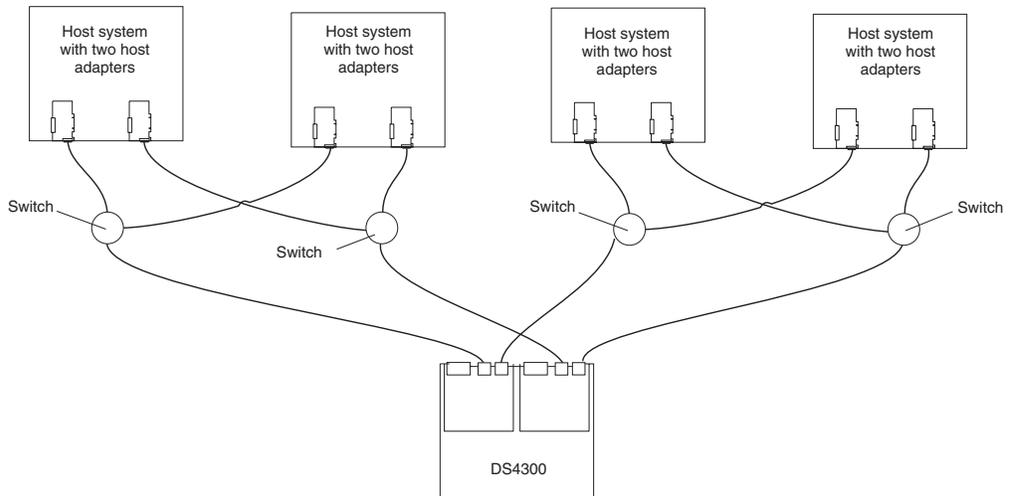

Figure 60. Example of a two-cluster configuration (Model 60U/60X)
- Two clusters (Figure 60 on page 78)